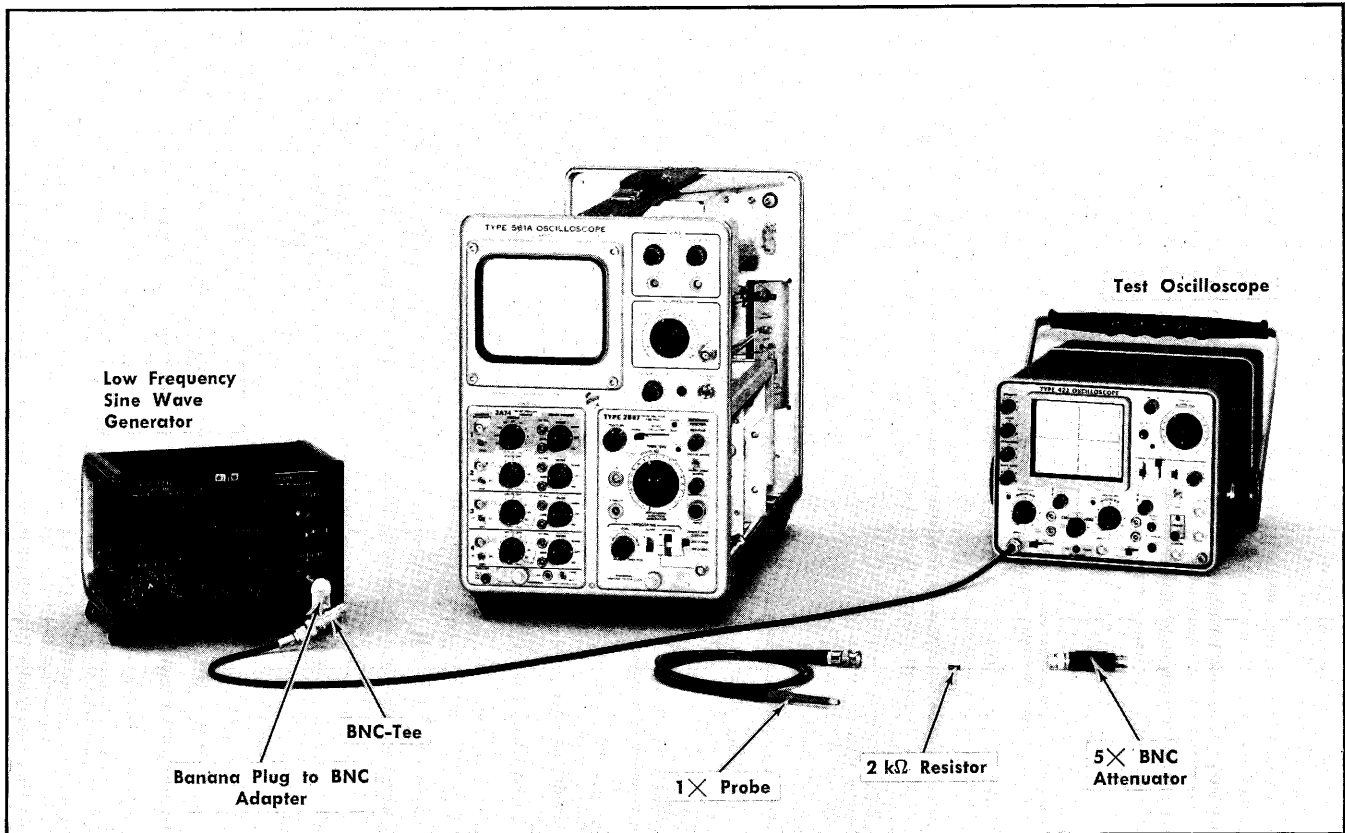

Fig. 5-28. Equipment arrangement for steps 13, 14 and 15.
- a. The equipment arrangement is shown in Fig. 5-28. The preliminary control setup applies, except that the 2B67 (TRIGGERING) LEVEL control is at AUTO.
- d. Connect the 1× Probe (item 13) BNC connector (or a patch cord) to the Oscilloscope CALIBRATOR Output jack.
- f. Insert one end of a 2 kΩ resistor (item 25) into terminal E of the 2B67 Function Amplifier INPUT connector.
- a. The equipment arrangement is shown in Fig. 5-28. The preliminary control setup applies, except that the 1× probe (or patch cord) is connected to the Oscilloscope CALIBRATOR.
a. The equipment arrangement is shown in Fig. 5-28. The preliminary control setup applies except that the TIME/DIV control is at ROTATIONAL FUNCTION GENERATOR position and the FOCUS control is fully clockwise.
b. Connect the banana plug-to-BNC adapter to the output of the Low Frequency Sine Wave Generator, and connect a BNC Tee to the adapter. Connect a coaxial cable from the BNC Tee to the input of the Test Oscilloscope (item 5).